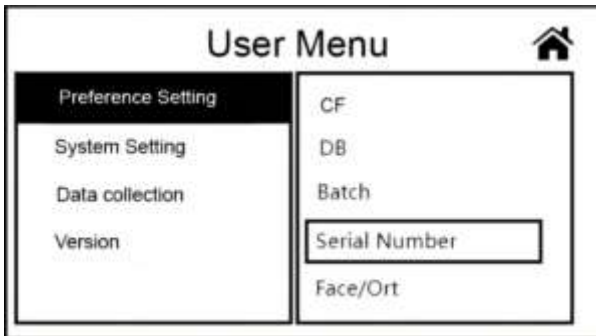
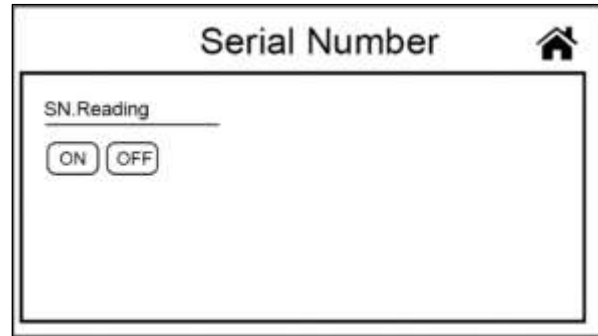

Figure 59
Figure 60
2) As in Figure 59, touch the fourth item “Serial Number” to enter the serial number setting interface, as in Figure 60. Users can turn on/off the serial number reading in this interface. The left side of the interface “SN.Reading” ON represents to turn on the serial number reading, OFF represents to turn off the serial number reading, this function is only available in MIX mode and SDC mode. When turn on this function,